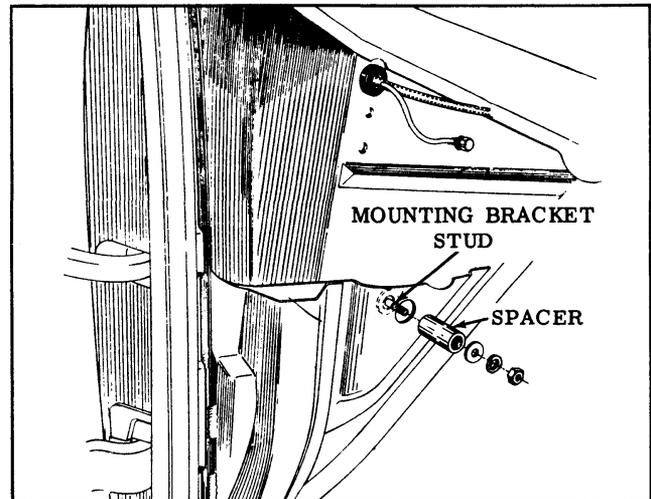

Fig. 15-7 Antenna Mounting
3. Remove nut, washers, and spacer from mounting bracket stud. (See Fig. 15-7)